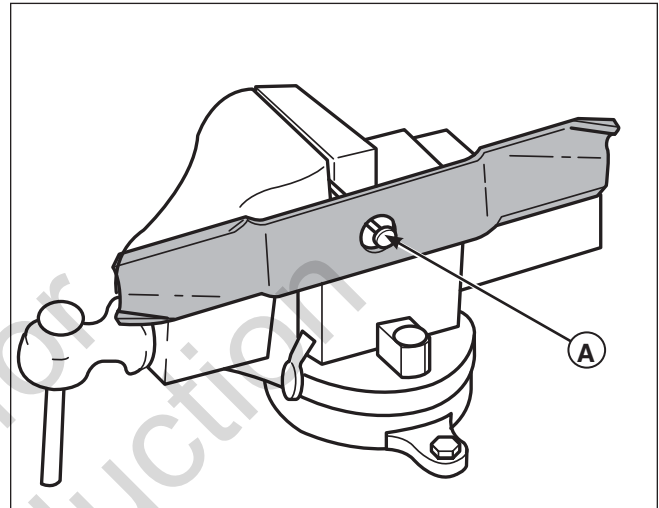

Figure 18. Balancing the Mower Blade
2. See Figure 18. Put the mower blade on a nail in a vise and turn the mower blade to the horizontal position.